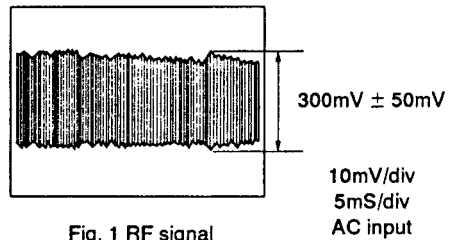

Fig. 1 RF signal
3. Adjust VR601 so that the amplitude of the RF signal becomes  $300\text{mV} \pm 50\text{mV}$ . (Fig. 1)